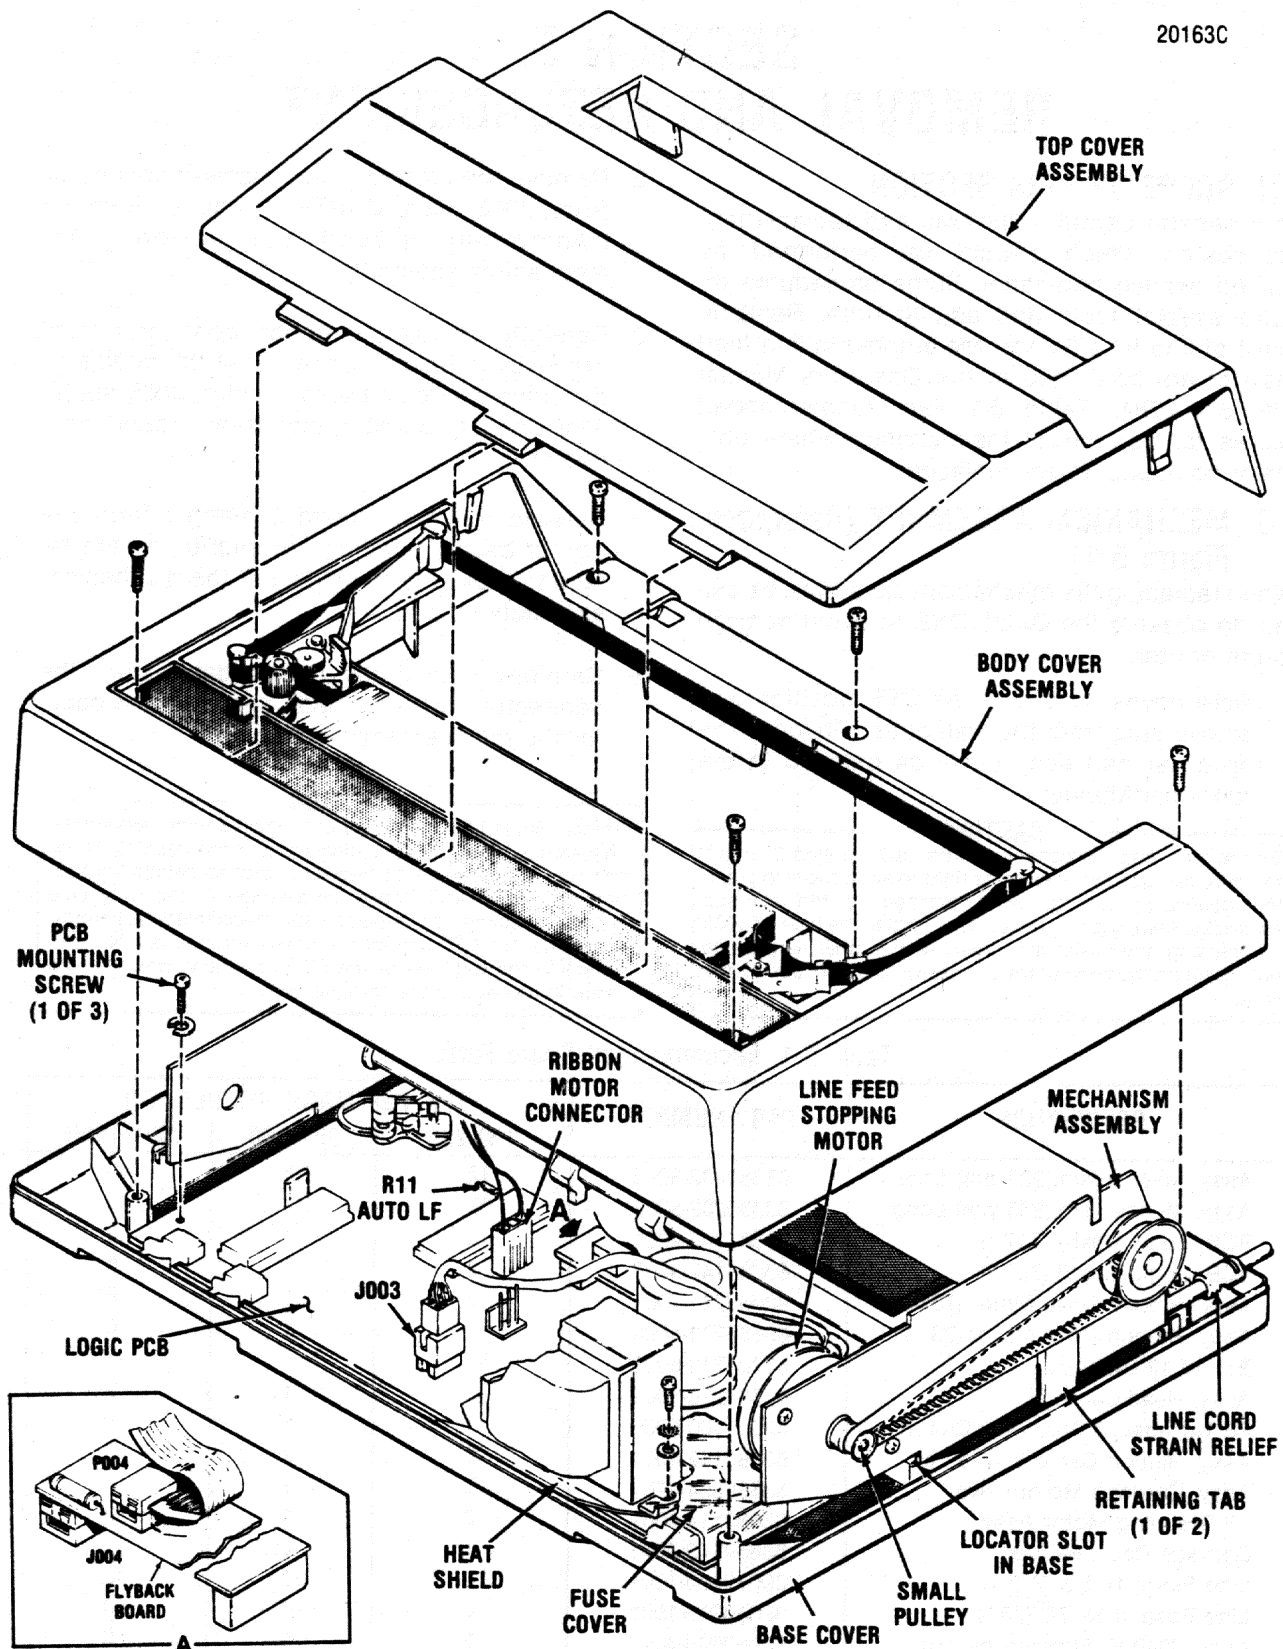

Figure 5-1 Mechanism Assy. Replacement
## 5.2 MECHANISM ASSEMBLY (Reference Figure 5-1)
7. Install the ribbon cable, plugging it carefully into the sockets on the carriage and the flyback board (see inset, Figure 5-1). The ribbon cable must loop behind the strain-relief bar on the carriage assembly. Plug in single wire connector J005 and transformer ground connector.
### 5.3 PCB LOGIC BOARD (Reference Figure 5-1)
### 5.4 LINEFEED STEPPING MOTOR (Reference Figure 5-1)
### 5.6 BASE COVER ASSEMBLY (Reference Figure 5-1)
### 5.7 BODY COVER ASSEMBLY (Reference Figure 5-1)